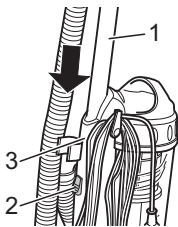

Fig. 7
3. Push the button to release the telescopic tube (Fig. 7/2) and pull the telescopic tube (Fig. 7/1) out of the telescopic tube mount (Fig. 7/3).